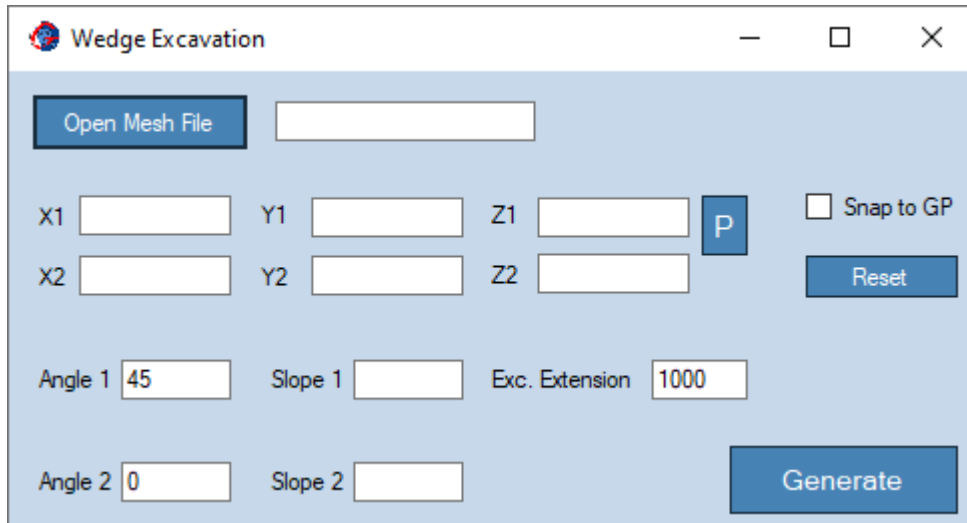

Figure 34: 3D Surfaces Menu – Wedge Excavation.
- **Snap to GP:** This option is useful when coordinates (X,Y) are selected using the mouse. Given the unlikeliness of exactly clicking over a gridpoint (GP) coordinate, activating this option will internally correct the coordinate of the selected point to the closest GP coordinates. This option helps to create straight edges of the landform perimeter, aligned with the mesh grid.
- **Meshing Menu, Wedge Excavation Mesh:** This menu option (shown in Figure 34) defines a Wedge Excavation landform over any given surface.